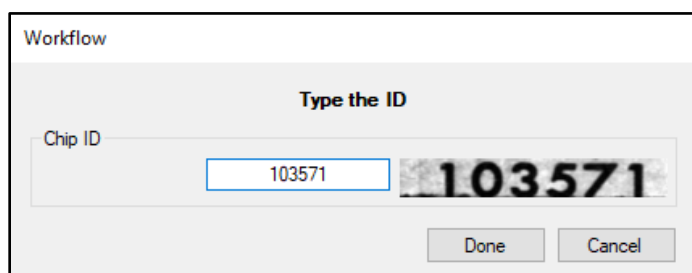

Figure 92. Enter the chip ID after autofocus and barcode scanning steps
9. When the autofocus and barcode scanning steps are complete, if there is no chip ID picture shown, as in Figure 92, that indicates the chip is likely in the incorrect orientation and needs to be rotated and repeated.